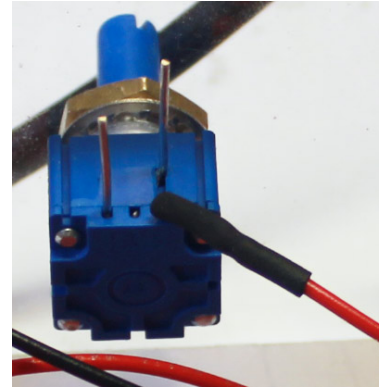

Figure 30
30. Figure 30 shows the heat shrink tubing in place for red wire on the pot (R1).